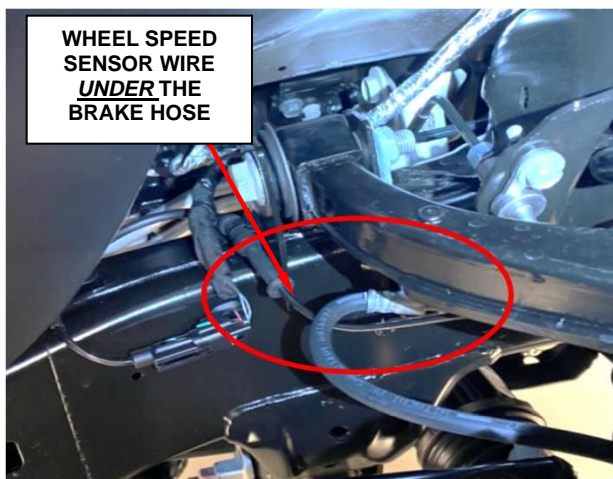

Figure 2 – Incorrect Wire Routing
4. Visually inspect the wheel speed sensor routing (Figure 2 and 3).